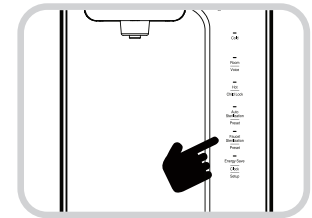

Fig. 20
2. Press the Faucet Sterilization/Preset button for tree (3) seconds in the Waiting Status (Fig. 20). The Voice Guide will say "selecting user setting mode" "user setting mode, please set function by pressing the illuminated button".